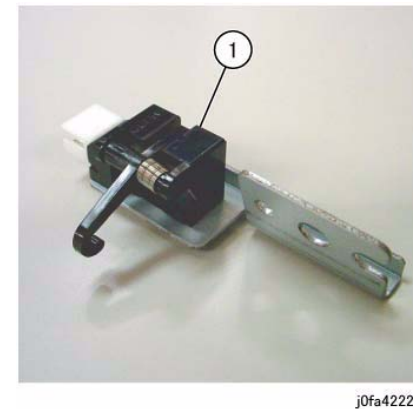

Figure 4 Removing the Finisher Entrance Sensor (j0fa42226)
7. Remove the Finisher Entrance Sensor. (Figure 4)